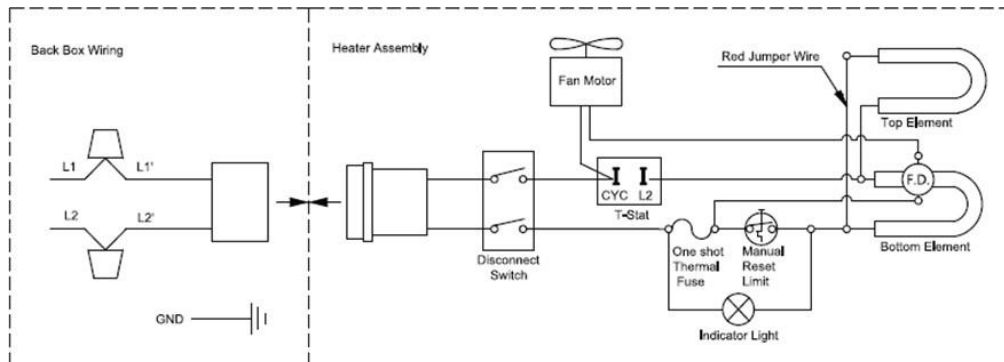

Figure 3 -Wiring diagram
1. Use the following wiring diagram (Figure 3) to connect supply wiring to heater lead wires in back box.
3. Two (2) metal retaining straps are provided in back box to secure wires. Carefully fold supply and heater wires along side of box and secure by bending the retaining straps up and over the wires.